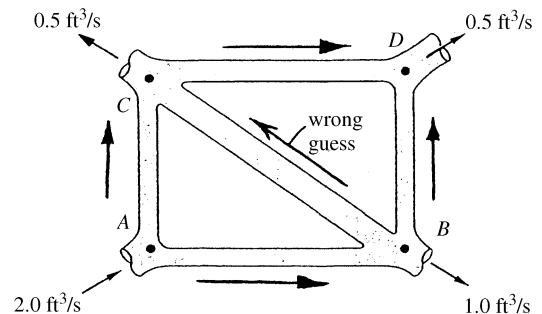

Fig. P6.130
6.130 In Fig. P6.130 lengths AB and BD are 2000 and 1500 ft, respectively. The friction factor is 0.022 everywhere, and $p_A = 90 \text{ lbf/in}^2$ gage. All pipes have a diameter of 6 in. For water at 20°C, determine the flow rate in all pipes and the pressures at points B , C , and D .